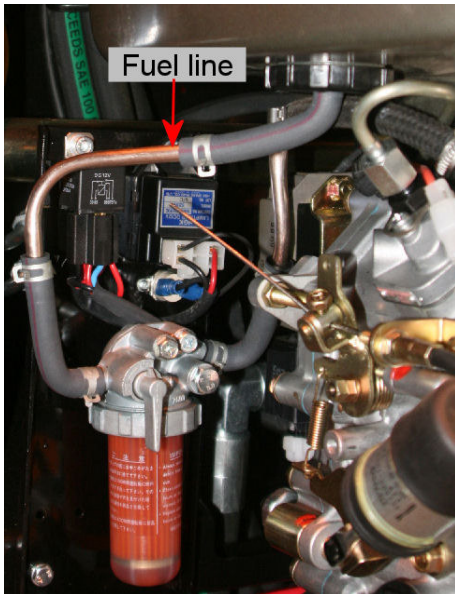

Fig 3-11 Fuel line
2. Disconnect the fuel line from the tank (*Fig 3-11*).